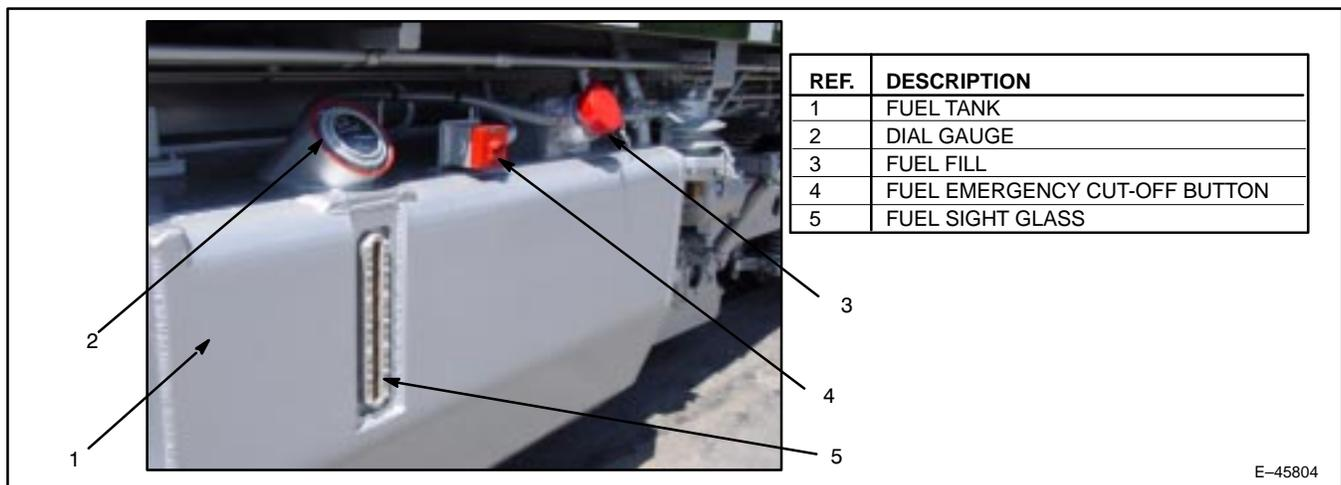

Figure 24. Side Of Fuel Tank Showing Cut-off, Fill, And Gauge.
2. Fuel–Oil Sight Glasses – Mounted on both sides of the main fuel tank (Figure 24) to indicate the level of fuel in the tanks.